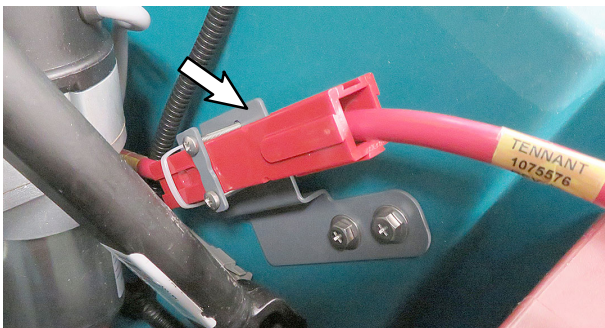

Fig. 1
2. Disconnect battery cable connector from battery pack (Figure 1).